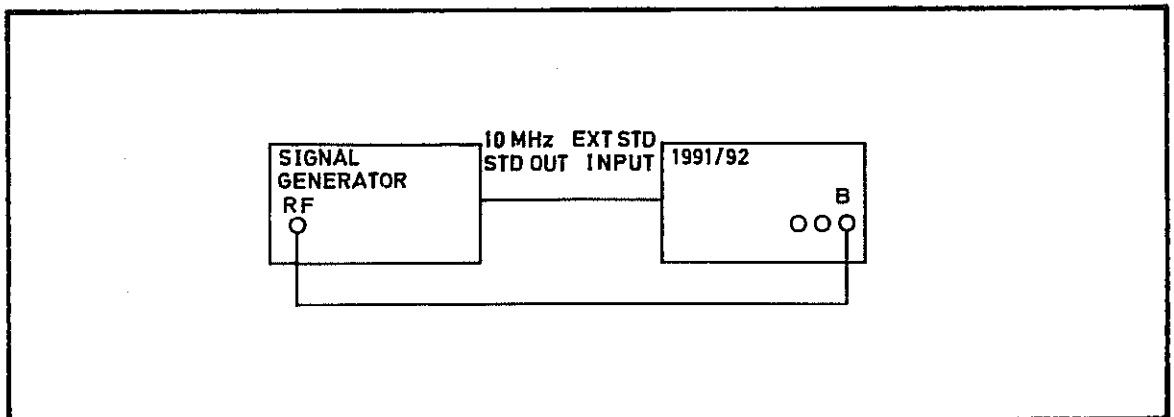

Fig 7.17 Connections for Channel B Sensitivity PVP
- (1) Select 50  $\Omega$  on channel B.
- (2) Connect the test equipment as shown in Fig 7.17. Check that the EXT STD indicator lights.
- (3) Press 2 1 SHIFT STORE SF SHIFT SF
- (4) Set the signal generator output to the frequencies shown in Table 7.6 in turn. Set the 1991/92 resolution to the corresponding value.
- (5) At each frequency, determine the minimum input level to the 1991/92 which gives stable counting. Verify that this is not more than the level shown in the table.
- (6) Disconnect the test equipment.